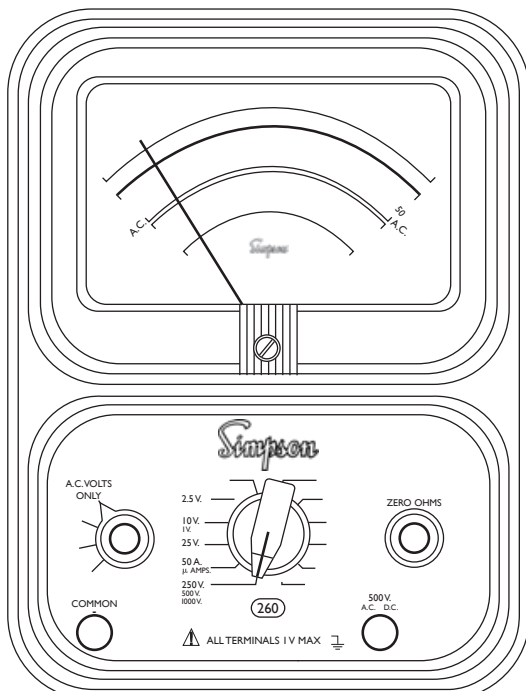

FIGURE 4-6. Jacks and Switch Positions for Measuring AC Voltage 0-2.5 Through 0-250V Ranges
- a. Set the function switch to AC Volts Only position (Figure 4-6).